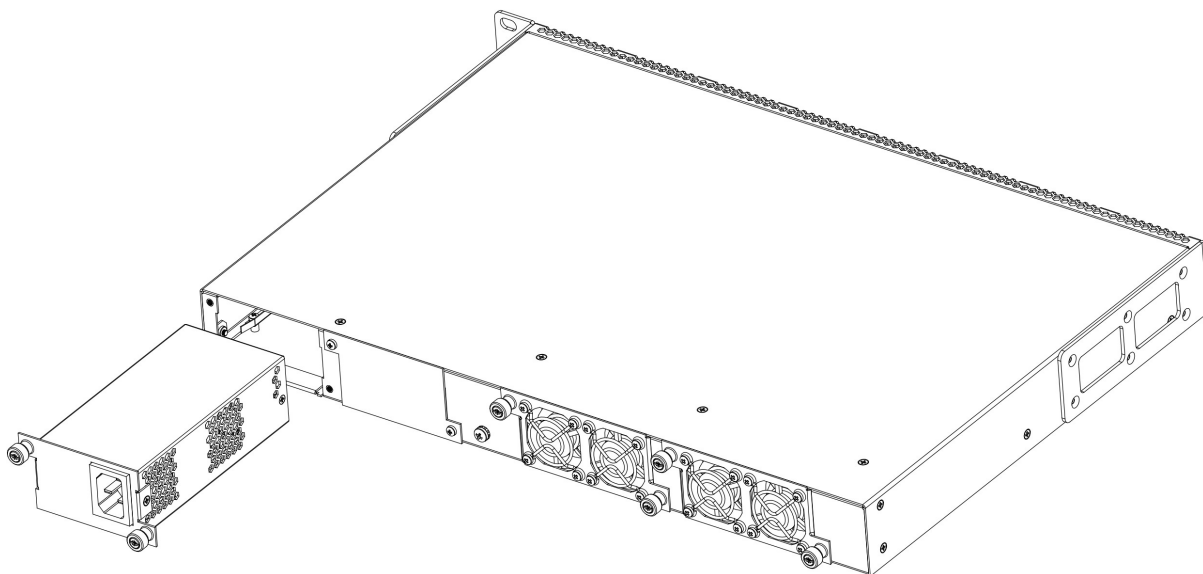

Figure 4 — Power module installation
Depending on power supply requirements, terminals can be supplemented with either an 220 V, 50 Hz AC power module or a 48 V DC power supply module. The installation location for the power module for LTP-16N(T) is shown in Figure 4.